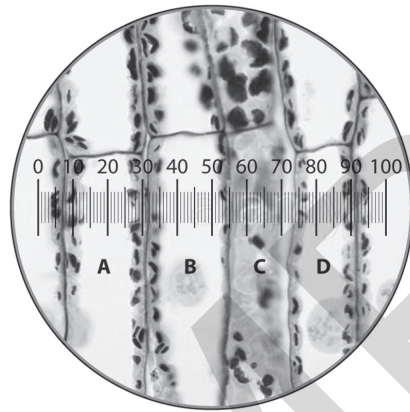

Figure 1.5
- 3 Using the smallest objective lens, focus on the leaf section. Move the slide until you can see palisade cells. If necessary, change to a different objective lens, until you can see a group of palisade cells clearly. Move the slide until the cells are placed vertically, as shown in Figure 1.5.
- 4 Turn the eyepiece graticule until the scale lies horizontally across the group of cells, as shown in Figure 1.5.